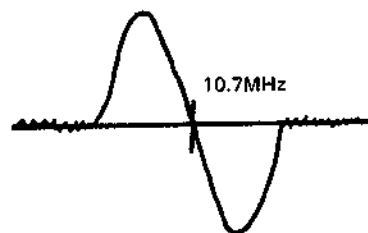

Fig. 12
2. Align the wave center to 10.7MHz with T808 as indicated in Fig. 12.